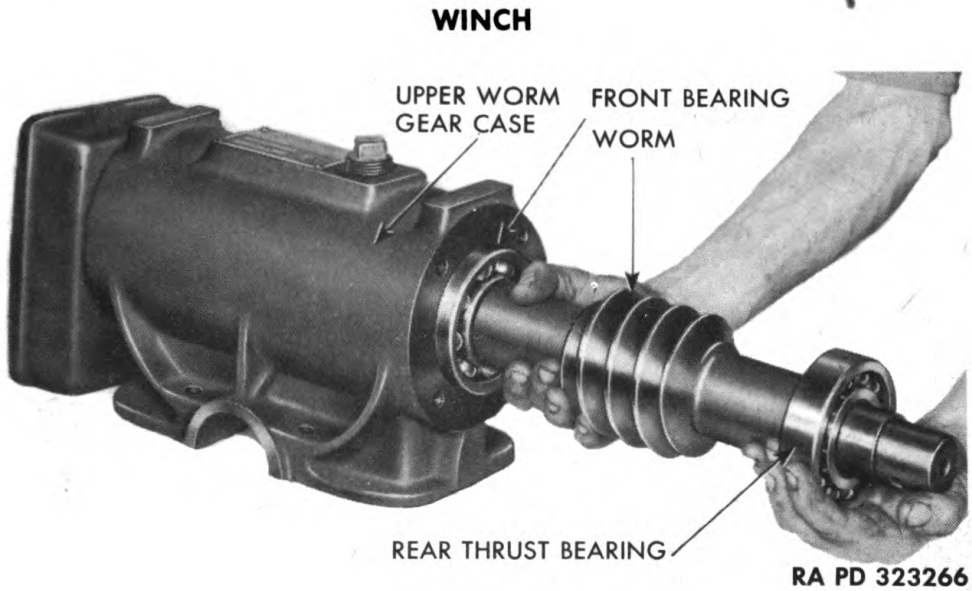

Figure 273 — Removing Winch Worm Assembly
i. Remove Winch Worm Assembly (fig. 273). Pull winch worm assembly out of gear case.
c. **Install Worm Assembly.** Insert worm assembly (brake and first) into rear end of upper worm gear case (fig. 273). Use care in inserting brake end of worm shaft through oil seal in automatic brake case. Tap worm and bearings into place with a soft hammer until bearings are seated flush with gear case. Install new gasket and rear bearing cap to upper worm gear case, and attach with four cap screws and lock washers (fig. 271).